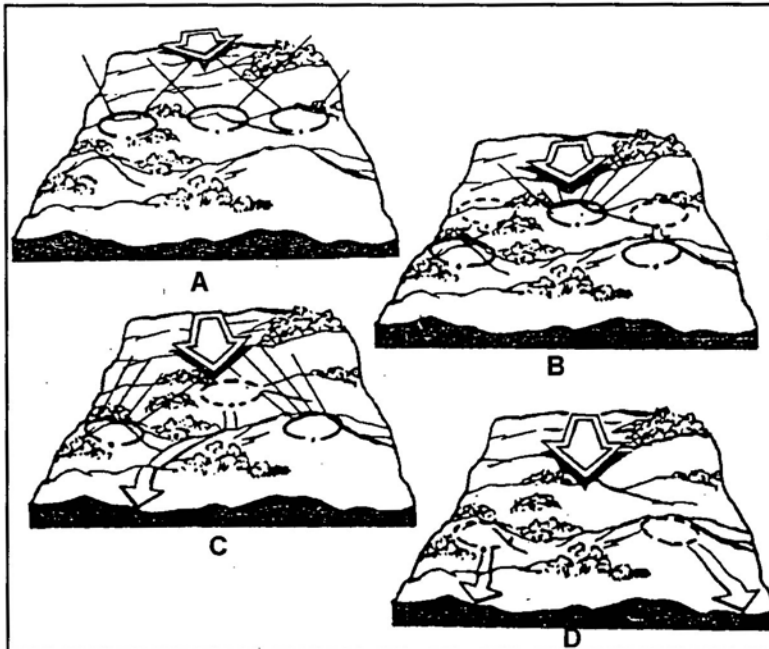

Figure 4. Disengagement by squad.
- c. Disengagement by squad. If enemy fire is such that fire and maneuver by fire teams is unnecessary, or if squads have moved back to a point where it is no longer necessary, the platoon moves back by squads. The platoon leader has each squad, in turn, move back covered by the fire of the others (Figure 4).